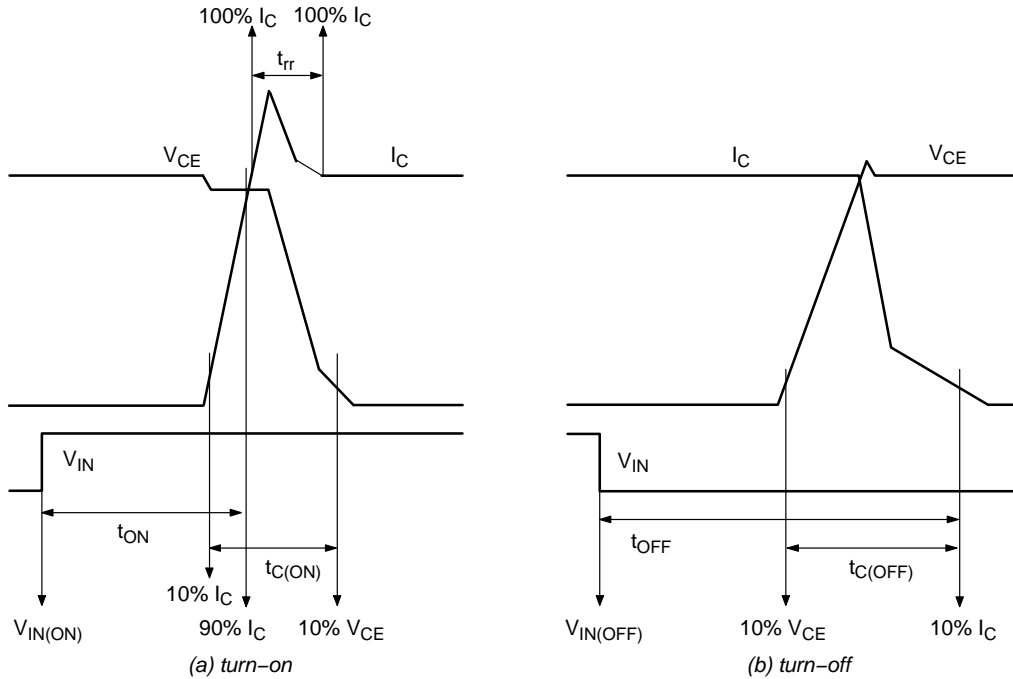

Figure 3. Switching Time Definition
7. t_{ON} and t_{OFF} include the propagation delay time of the internal drive IC. t_{C(ON)} and t_{C(OFF)} are the switching times of IGBT itself under the given gate driving condition internally. For the detailed information, please see Figure 3.